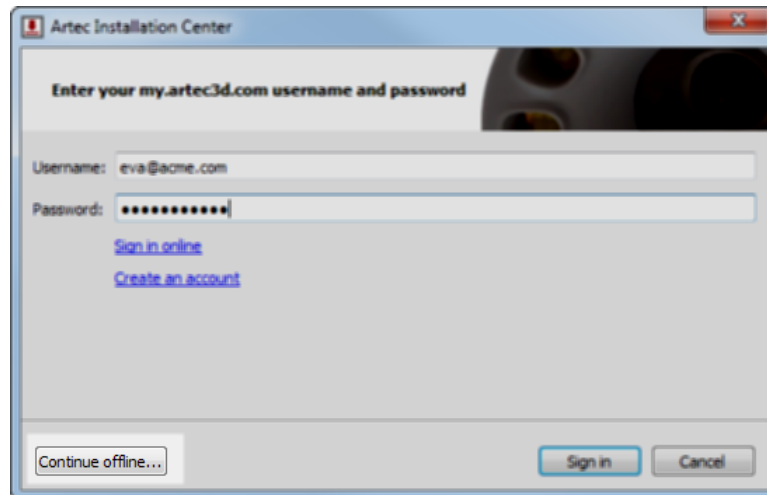

Figure 4.14: Artec Installation Center authentication dialog
2. During installation the login/password dialog will be displayed as Figure 4.14 shows. Click *Continue offline*